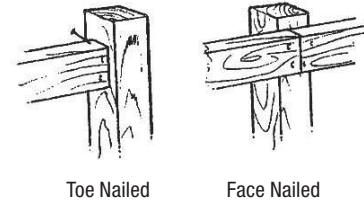

fig. 4
- There are several ways to attach the backer rails to the posts (fig. 4). Face nailed is the recommended method of attachment.